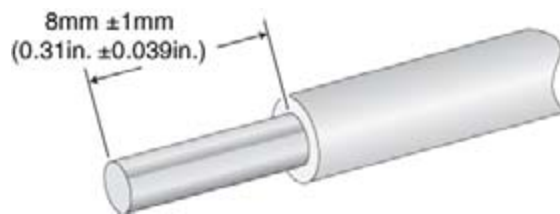

Figure 38. Stripped Wire
3. With a 14-gauge wire-stripping tool, strip the three wires in the tray cable coming from the DC input power source to $8\text{mm} \pm 1\text{mm}$ ($0.31\text{ in.} \pm 0.039\text{ in.}$), as shown in Figure 38 on page 92.